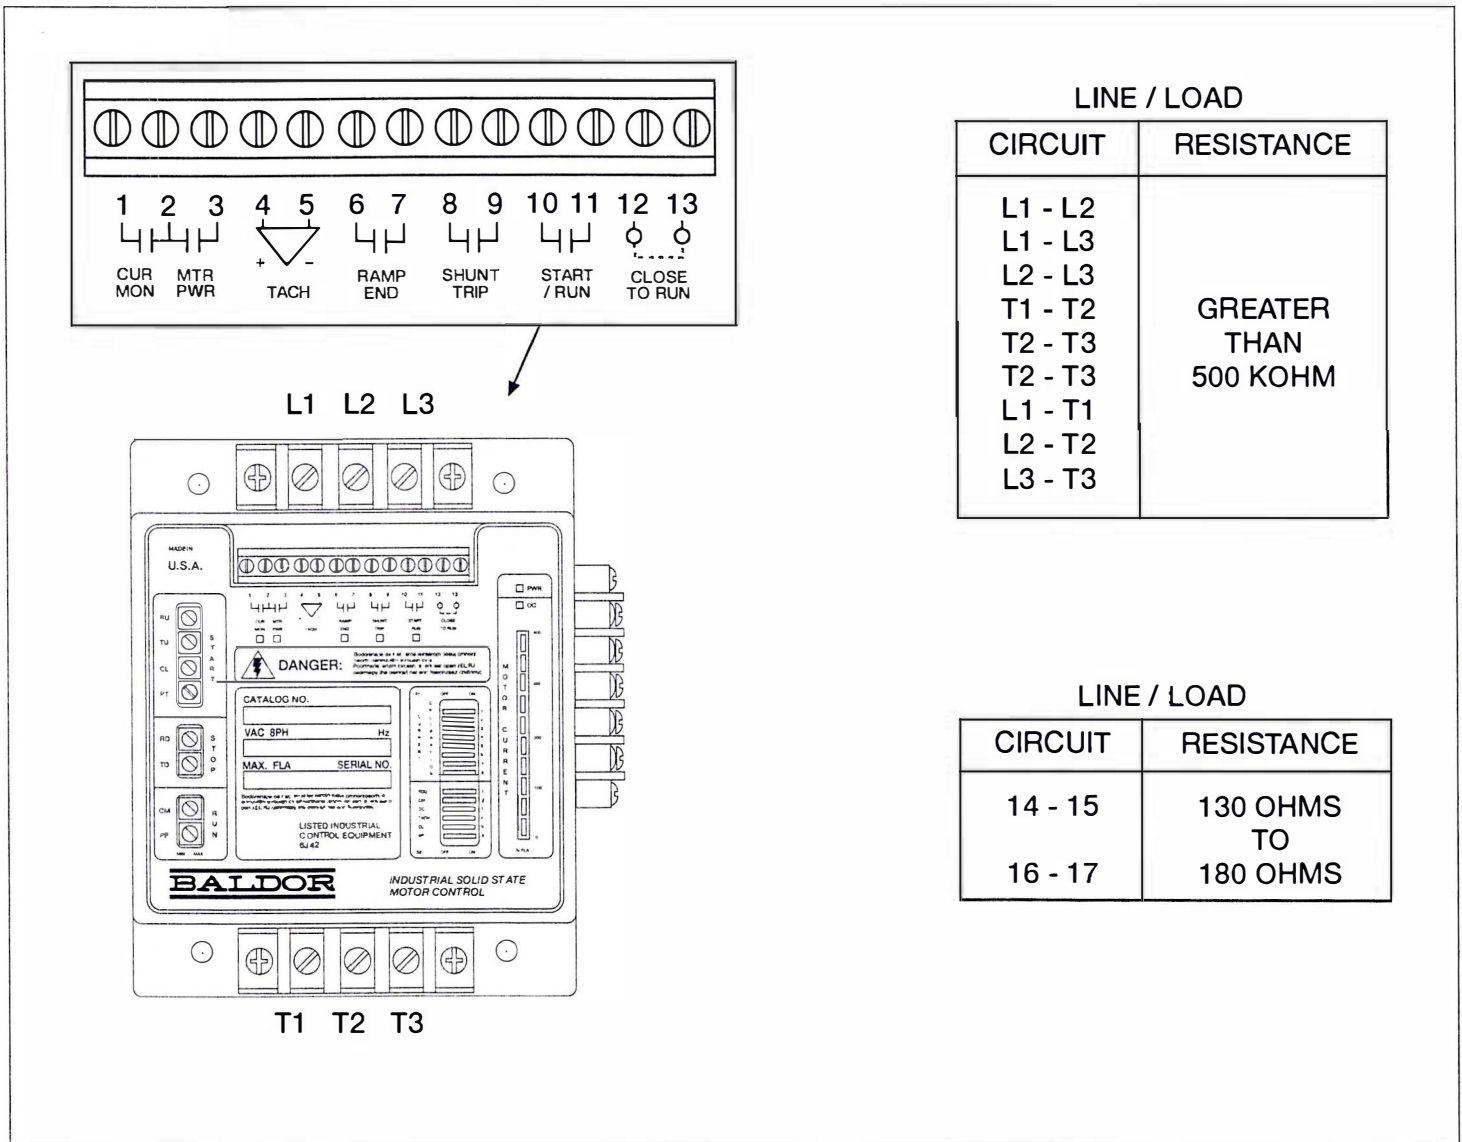

FIGURE 4
- Do a resistance check for a shorted SCR and module. (See figure 4).
- Check the measured values against the resistance chart, Figure 4.